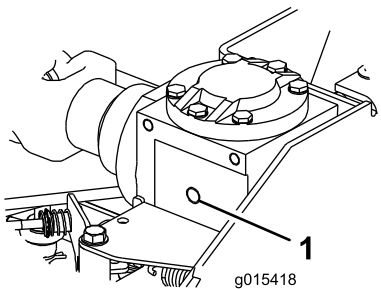

Figure 7
2. Remove the plug from the gearbox fill hole and check the oil level (Figure 7).